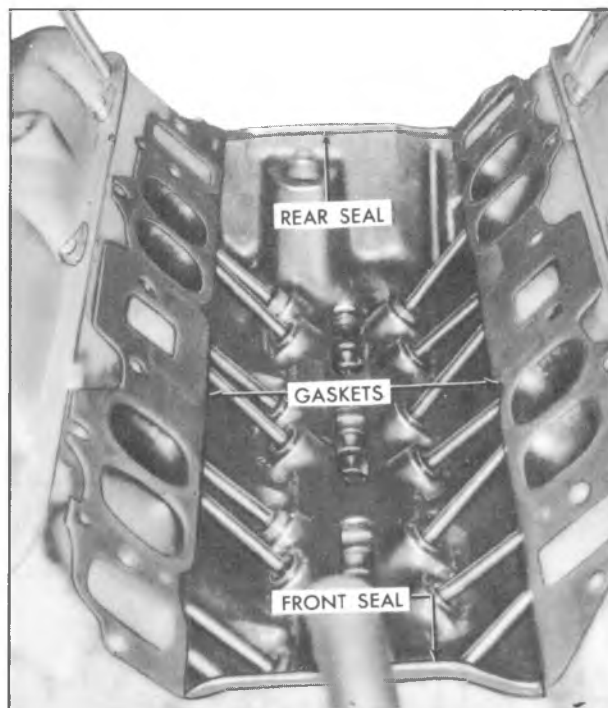

Fig. 6A-9V--Intake Manifold Gasket Seal Location
2. Install manifold seals on block and gaskets on cylinder heads (fig. 6A-9V). Use sealer at water passages and where seals butt to gaskets.
3. Install manifold and torque bolts to specifications in the sequence outlined in fig. 6A-10V.